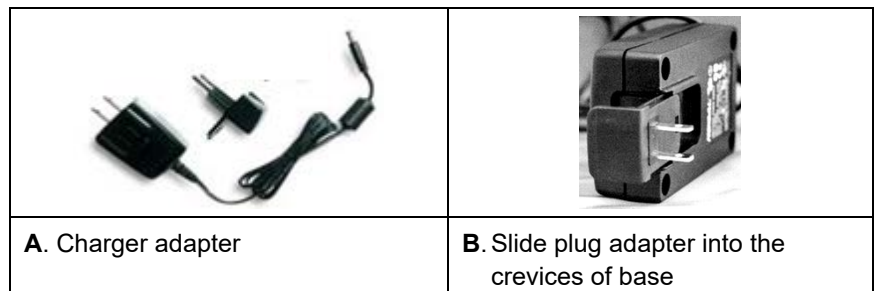

Figure 2-6
Figure 2-6 illustrates the assembly of the charger adapter and the plug adapter. It slides into place by guiding it down the back cavity (opening) of the power supply.
1. Assemble the charger adapter and plug adapter as illustrated in Figure 2-6. (It will be the same process for an EdgeDock5.)